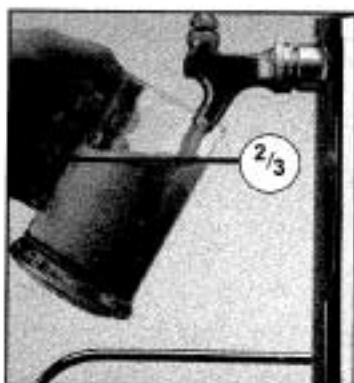

Fig. 13
3. Fully draw the dispenser handle and fill the glass to 2/3 full. (as shown in Fig. 13).